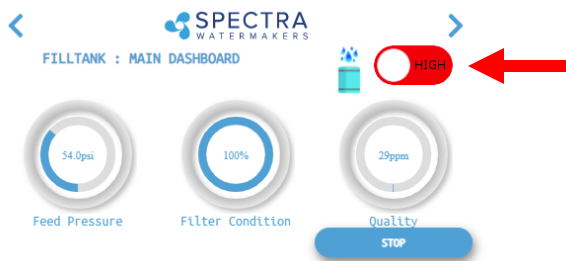

Figure 13
2.2) Once the system has started and you see the screen in Figure 13, ensure that the switch in the upper right hand corner is set to 'Run High'.